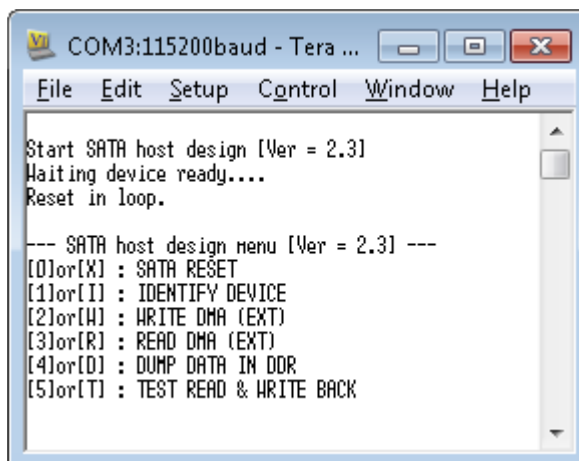

Figure 2-10 Main Menu of host demo
- At serial console on PC, main menu will be displayed as shown in Figure 2-10. Then, user can execute each command operation. Please check serial-cable connection if this menu is not displayed on console.